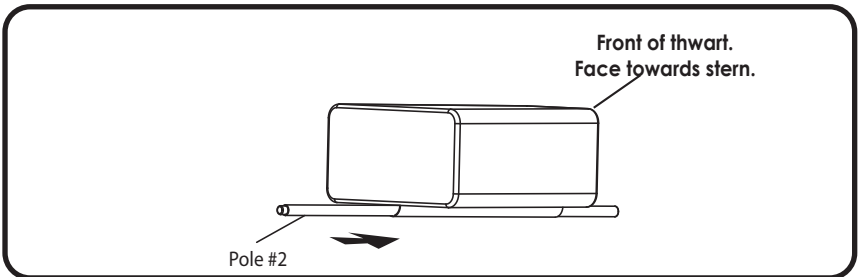

Figure 6
- 6) Insert pole #2 into the sleeve on the bottom of the rear thwart (leave deflated) making sure that the numbered end of the pole is at the back end of the Rear Thwart. See Figure 6.